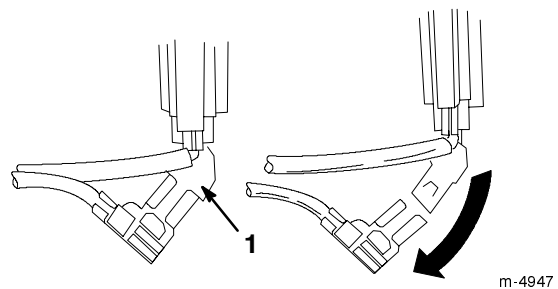

Figure 26
6. Disconnect the green ground wire clip under the throttle (Fig. 26).